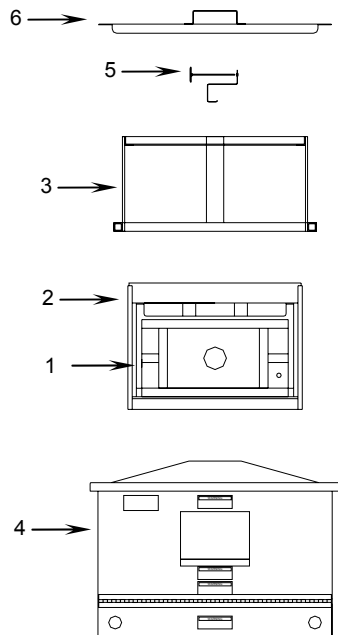

Figure 44. Packing Sink Assembly.
- b. Place the burner unit (**Figure 44, Item 1**) of each sink assembly into the burner rack (**Figure 44, Item 2**).
- c. Slide the base racks (**Figure 44, Item 3**) down over the burner racks (**Figure 44, Item 2**).
- d. Place each of these assemblies into a sink assembly (**Figure 44, Item 4**).
- e. Wrap each thermometer and its bracket (**Figure 44, Item 5**) in barrier material and place one wrapped thermometer assembly on top of each burner unit.
- f. Place the sink covers (**Figure 44, Item 6**) on the sink assemblies.